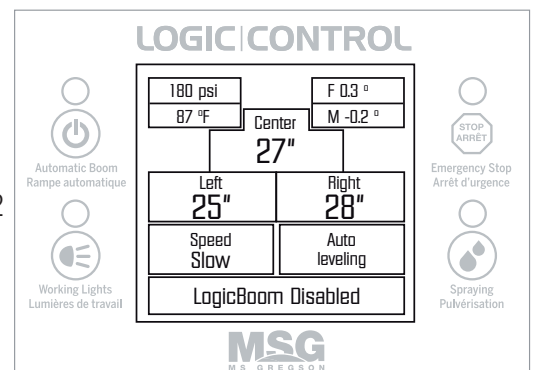

Figure 22
5. Do not activate the cylinders, increase very slowly the hydraulic flow of the #2 distributor of the tractor while observing the pressure changes in the upper left-hand corner of the console (**figure 22**).